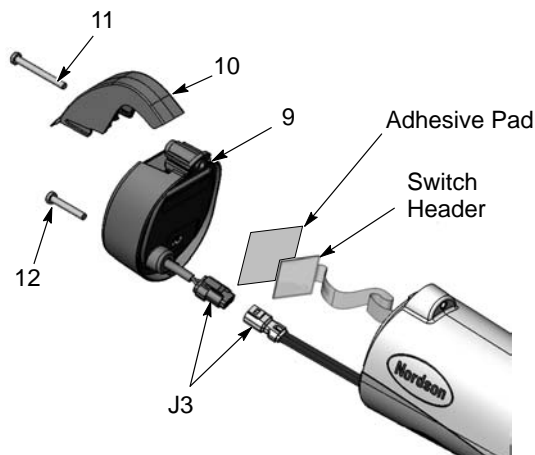

Figure 1 Removing the Display Module
1. See Figure 1. Unscrew the top (M3 x 30) screw (11) holding the hook (10) and display module (9) onto the gun body.
2. Slide the hook off the display module (9).
3. Unscrew the bottom (M3 x 20) screw (12).